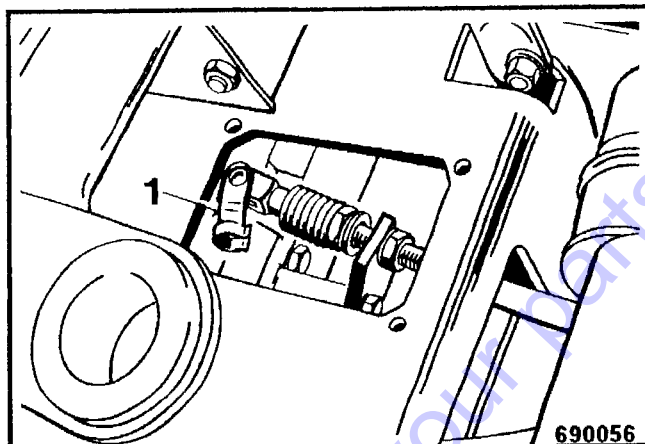

Fig. 3
- Pull the clip pin 1 (Fig. 3) out and take the travel cable off.